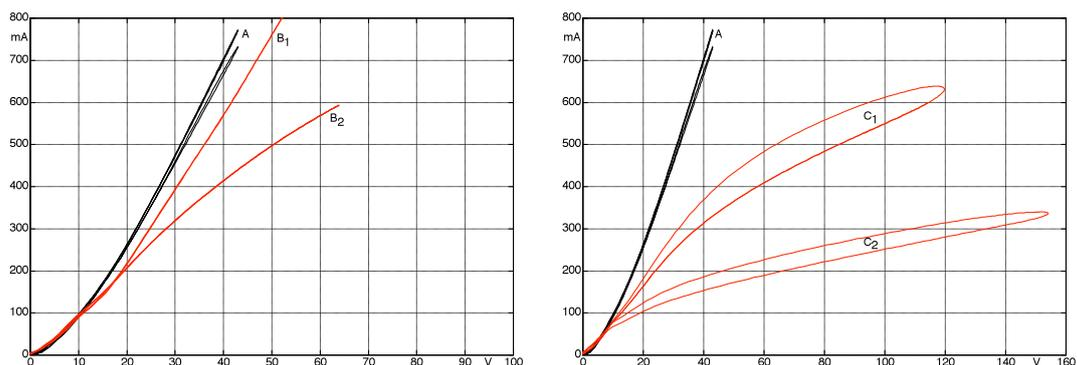

Fig. 10.7.4: GZ34 (full-wave rectifier). U/I-characteristic of "selected" tubes of varying quality.
Apart from manufacturer-specific and vintage-specific differences, **manufacturing scatter** within one lot also occurs, and so the luxury-tubes are individually measured i.e. **selected**. If you order selected tubes and they are delivered without a "selected" label, you can complain. You cannot complain if you receive tubes that are not selected. That is because "selected" merely indicates that the tube is labeled "selected". Whether, and how, a selection process happens – that mostly remains in the dark realm of trade secrets. Two "selected" GZ-34 acquired from a German tube distributor both were defective. How is something like that possible? A broken glass-container would be understandable – that can happen post-selection. But too low a power-capacity? That *had* to stand out during selection – because the label reads, after all: **GZ34-STR Selected**. How can anyone select without testing *each* tube? Only the third specimen of this supplier could deliver the current customary for a GZ34. This is in sharp contrast to the unselected Ultrion-tubes: each of the three acquired tubes was perfect. **Fig. 10.7.4** shows measurement diagrams taken from "selected" GZ34's. RC-loading was 32 μF , the load current was 200 mA. The high-quality tube (A) has both systems operating with almost identical characteristic while the other two tubes (B/C, D/E) are expensive rejects.